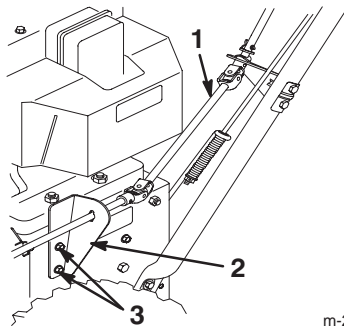

Figure 14
- Remove the two screws from the chute control rod bracket on left side of the frame (Fig. 14).
4. Install the bracket with the two screws (Fig. 14).